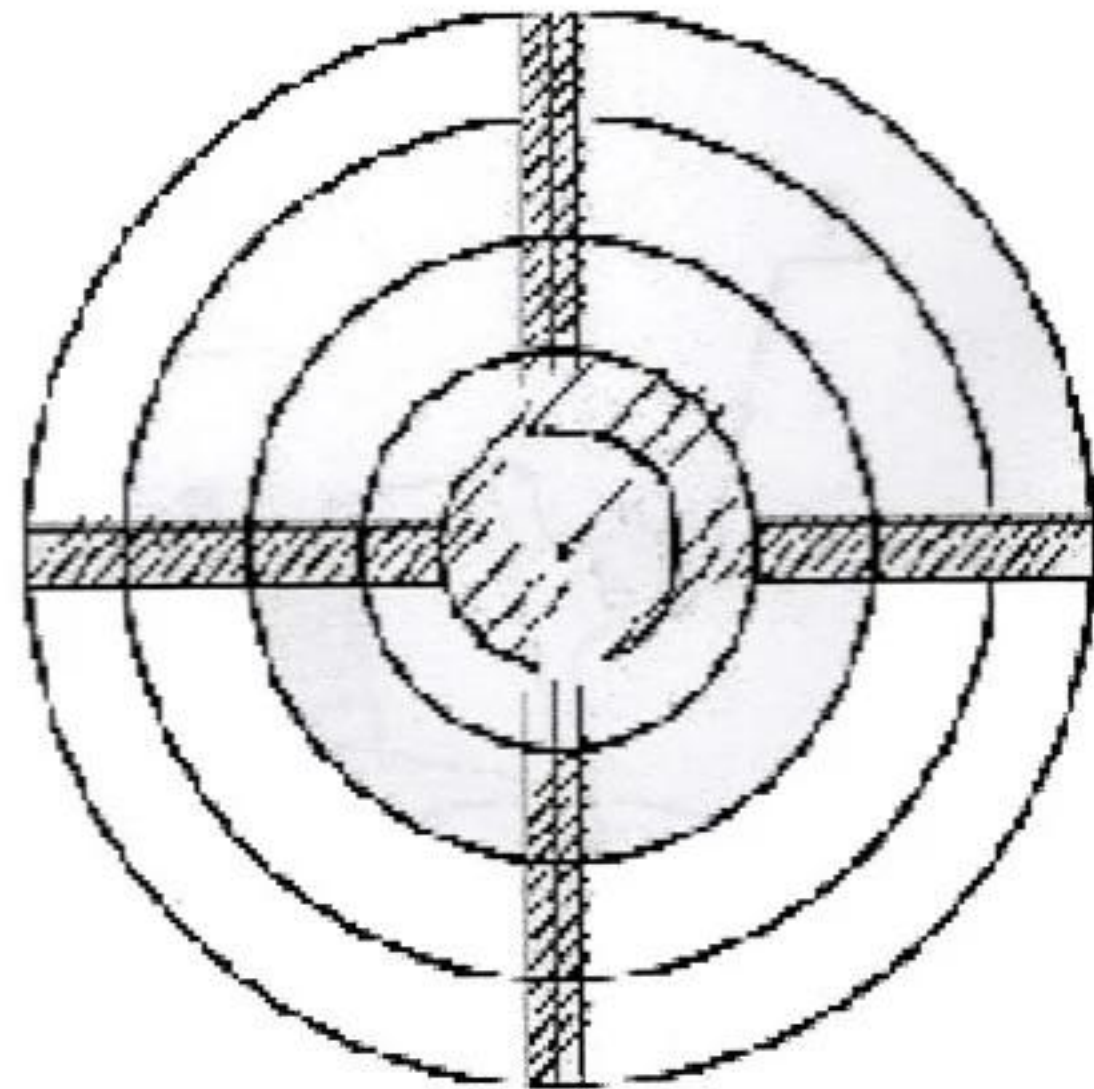

Fig. 4
(1) The astigmatic degrees of cylinder lenses mean that there are different numerical values on some sections that are vertical to each other. Measure the dioptries of these two directions separately and the differences between them are the astigmatic degrees of the cylinder lenses.
(2) When the astigmatic lenses are measured, the target resolving pictures
cannot always be adjusted clearly, as in Fig.3. Then you can see the 13 small points (like long small lines) on the target resolving pictures. Rotate the Axial Handwheel (4) to the same direction as the lines and shift the long crosslines to the same angles as the small points. At this time a long direction line appears clearly; if you go on adjusting the Dioptre Handwheel (7) until the other long direction line appears clearly. There are two numerical values appearing on the dioptre dial: The difference between them is just the astigmatic degrees while the higher numerical values appear clearly with the long lines, whose directions are the astigmatic axes (Fig.4)
(3) The locations of the astigmatic axes are indicated through angles from 0° to 180° . Every graduation of the instrument is 5° . When the astigmatic axis is determined, please adjust the Axial Handwheel (4) and the axis required can point the long crossline at the axial angle (Take the graduation in the eyepieces as the standard while the axial graduation on the Handwheel as the reference).